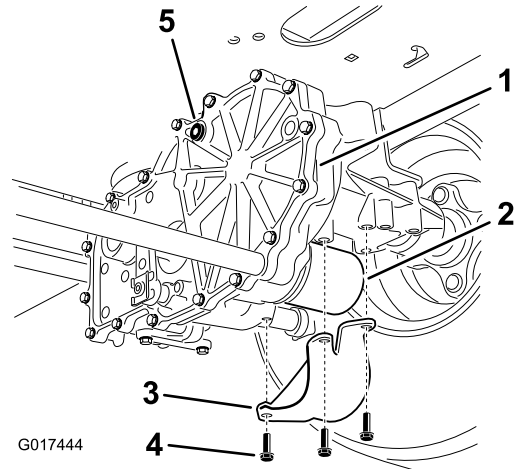

Figure 61
4. Locate the filter and guards on each transaxle-drive system (Figure 61).
5. Remove the 3 screws securing the filter guard and guard (Figure 61).